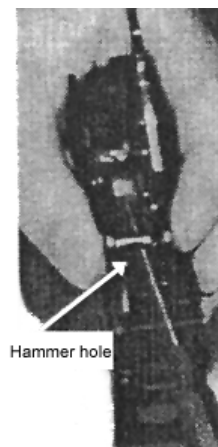

Figure 14
- Continue rotating the *counting wheel* to the rear and up. (You may need a punch to **slightly** pry the counting wheel up at this point. (Fig. 14) You only need **slight** pressure in prying up) Remove counting wheel. (Fig. 15)